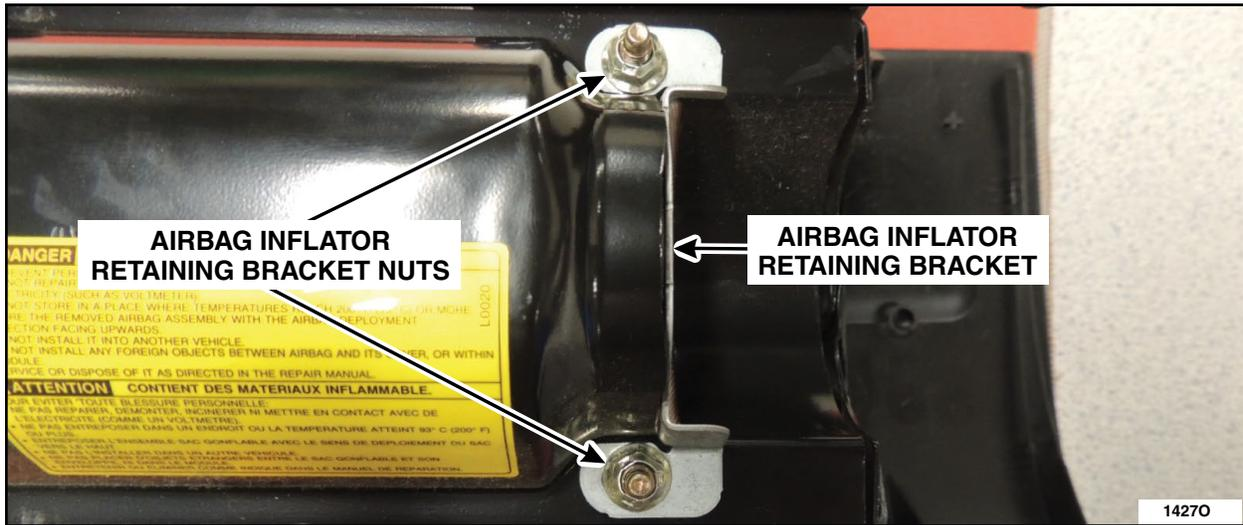

FIGURE 2
4. Remove the two airbag inflator retaining bracket nuts and the bracket, discard the nuts. See Figure 2.
7. Install the airbag inflator retaining bracket using two *new* nuts. See Figure 2.